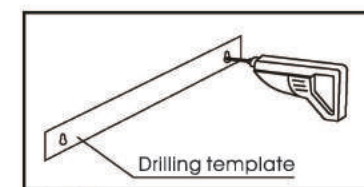

Fig.6-2
7. Rest the drilling template against the wall: The vertical centre line printed on the drilling template must correspond to the centre line drawn on the wall. Drill  $\varnothing 5/16$ " holes at the indicated positions (1 hole each at left and right). (Fig.6-2)